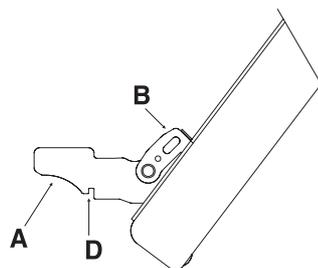

Fig 1
- Open the door completely and lift the 2 levers "B" (fig. 1);